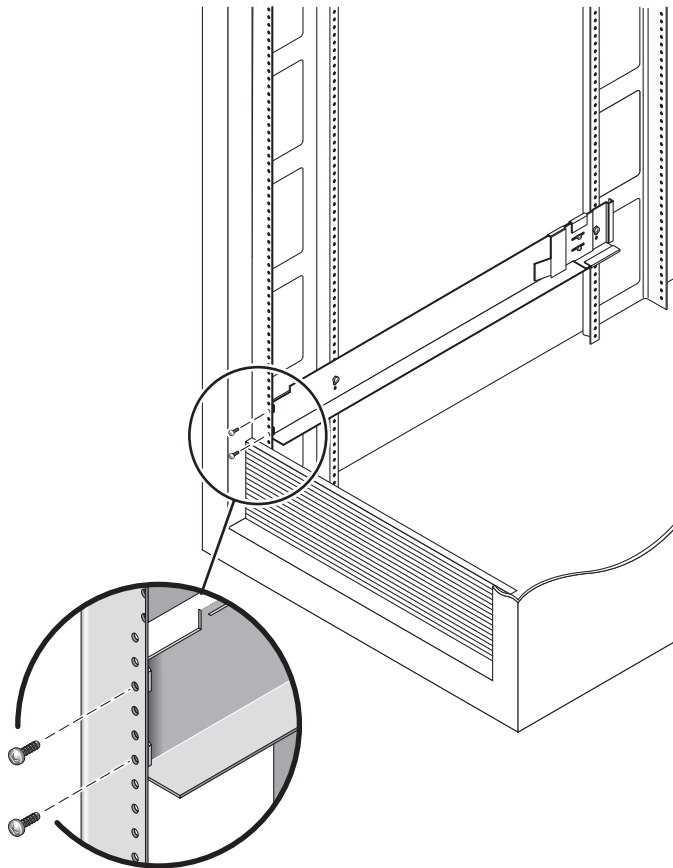

FIGURE 2-5 Securing the Left Rail to the Front of the Cabinet
9. Using the #2 Phillips screwdriver, insert two 8-32 screws in the front of the left rail to secure the rail to the front of the cabinet (FIGURE 2-5). Repeat for the right rail.